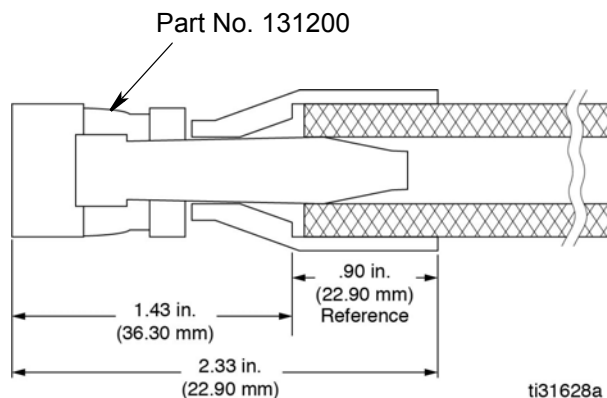

FIG. 55
After determining the final length of hose needed for the installation, install the reusable swivel fitting Part No. 131200 (included with the hose) to the bare end of the hose (see FIG. 55). Follow the Main Hose Assembly instructions provided in the next section of this manual (page 57).
3. Add 1.43 inches (36.30 mm) to the total hose length to accommodate the depth of the socket after it is installed on the end of the hose (FIG. 55).